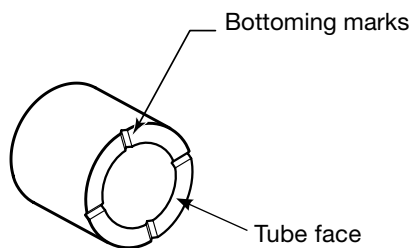

Fig. 3 Tube Bottoming Mark
- Inspect the tube end for **bottoming marks**. These radial indentations indicate the tubing was properly bottomed in the MHSU. If there are **not four** visible indentations, the preswaged assembly should not be used. See Fig. 3.